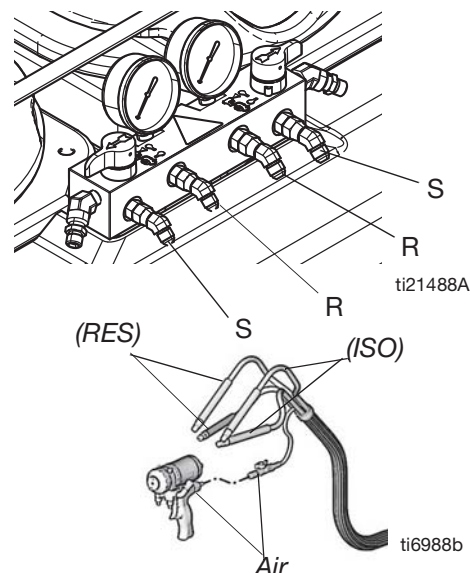

FIG. 5 Connect the Recirculation Hoses
1. Connect the fluid supply hoses to the outlet hose connections (R, FIG. 5). Red hoses for ISO, blue for RES. Fittings are sized to prevent connection errors. Connect the other end of hoses to ISO and RES inputs of gun.